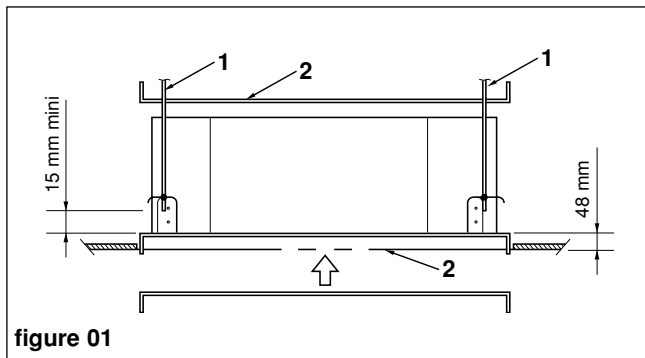

figure 01
- Use the drilling template provided (2) to determine the position of the suspension rods (1) and the hole to be made in the false ceiling (figure 01).
- The length of the suspension rods must be long enough to have distance of more than 15 mm between the bottom of the suspension rod and the bottom of the unit (figure 01).
- Adjust the distance between the unit and the top of the false ceiling (48 mm) using the nuts on the suspension rods (figures 01 and 03).